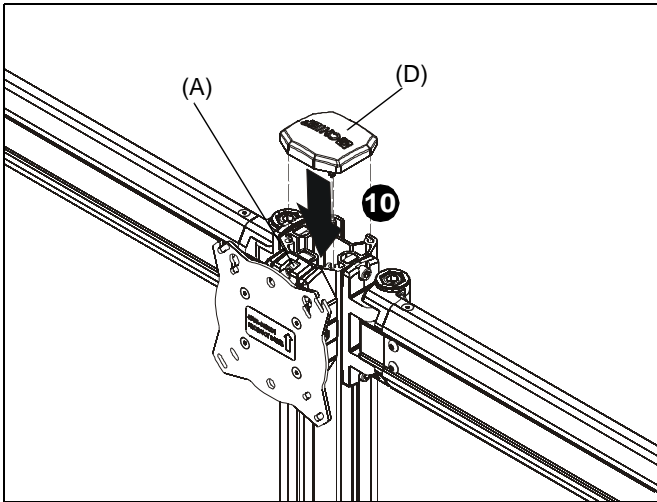

Figure 9
10. Snap column cap (D) onto top of array assembly (A). (See Figure 9)